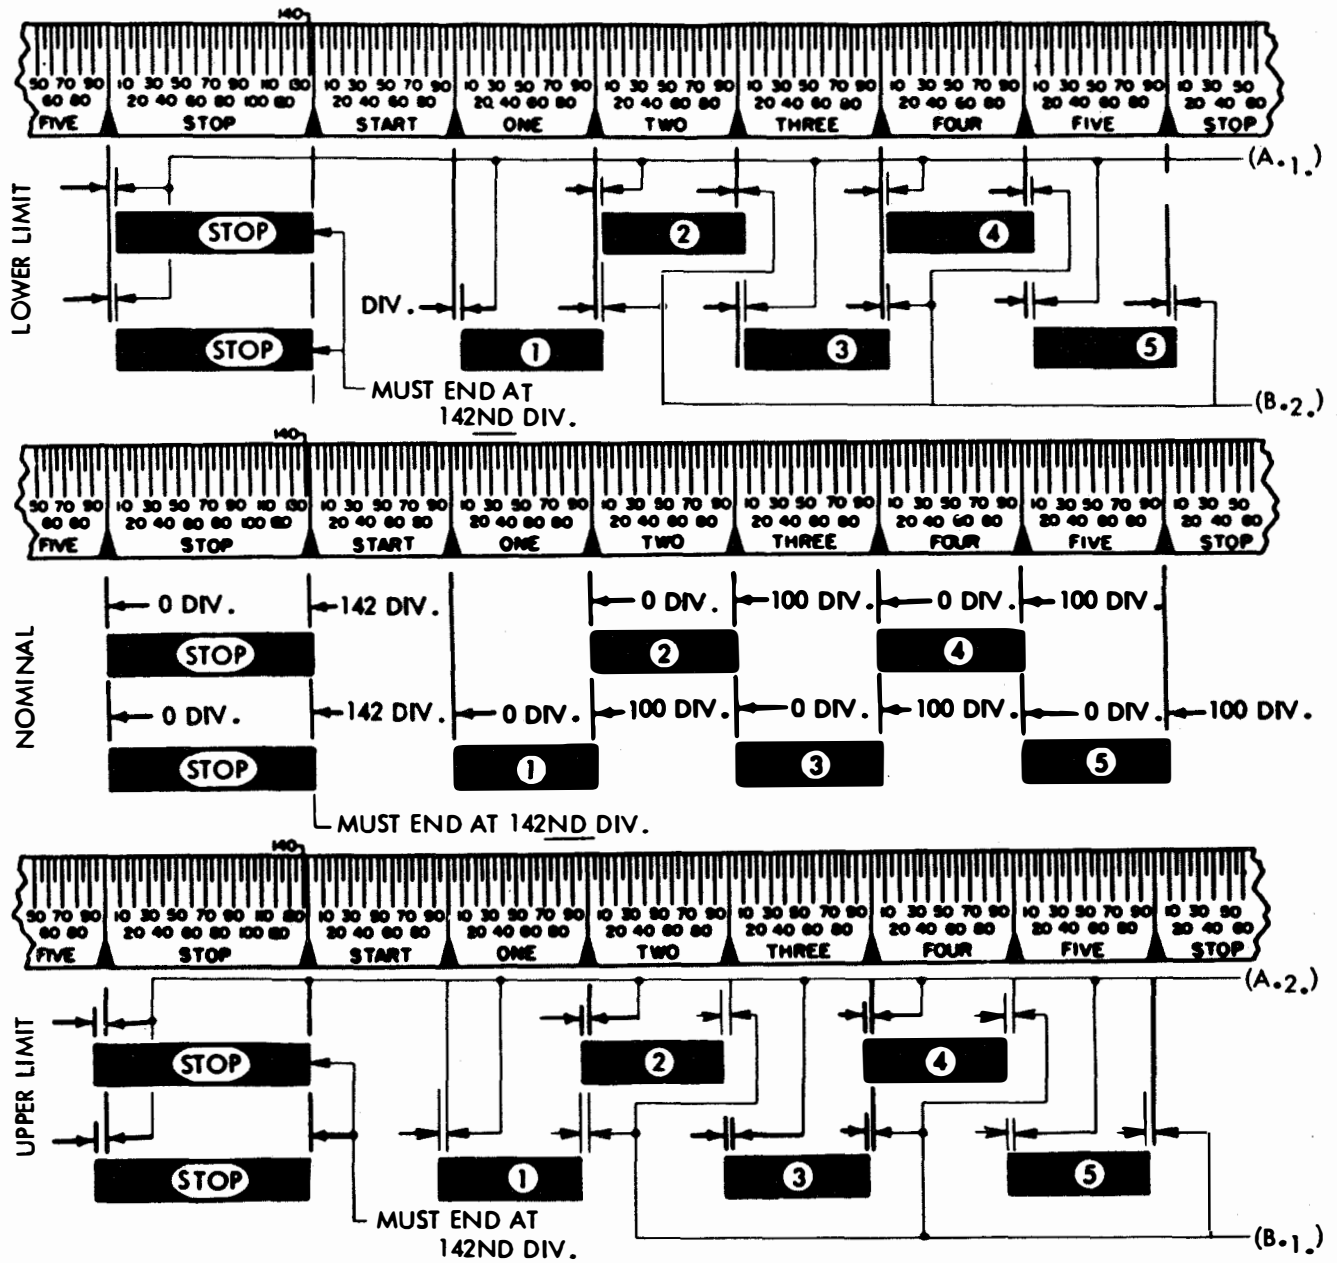

Figure 6-136. Signal Contact Clearance (Polar)
1. Beginning of each trace should fall between zero mark and 5th division of scale segment, and 95th division (previous segment) and zero mark (see figure 6-136).
2. End of each trace (except stop pulse) should fall between 95th division (previous segment) and zero mark, and zero mark and 5th division of scale segment (see figure 6-136).
(5) Signal Contact Clearance (Polar). Adjust as follows:
(a) Refer to figure 6-136.